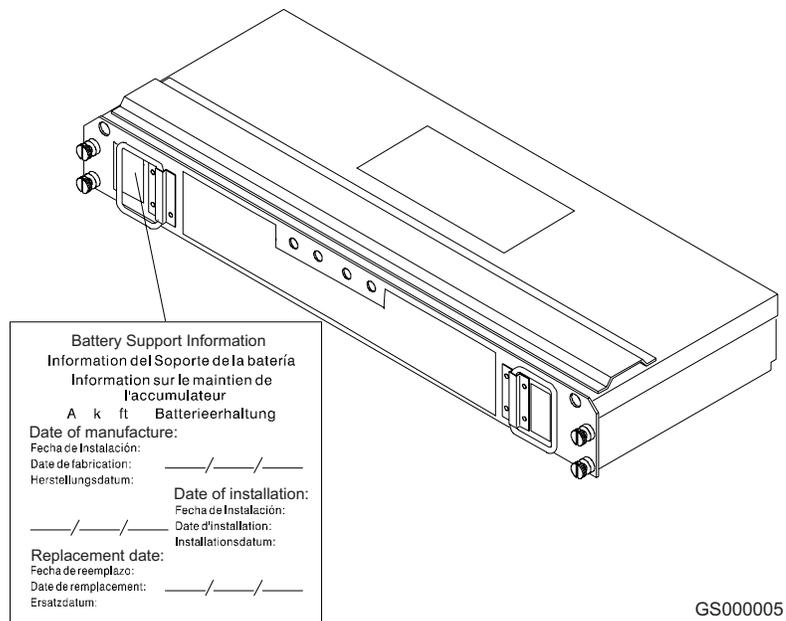

Figure 101. Recording the battery support information
- The service label on the battery provides a blank line for recording the date on which the battery was last serviced (see Figure 101 on page 150). Check this label to determine when to replace the battery. For information about using the software to track battery age, refer to the IBM DS4000 Storage Manager online help.
5. Find the “Battery Support Information” label on the front of the new battery unit, as shown in Figure 101.